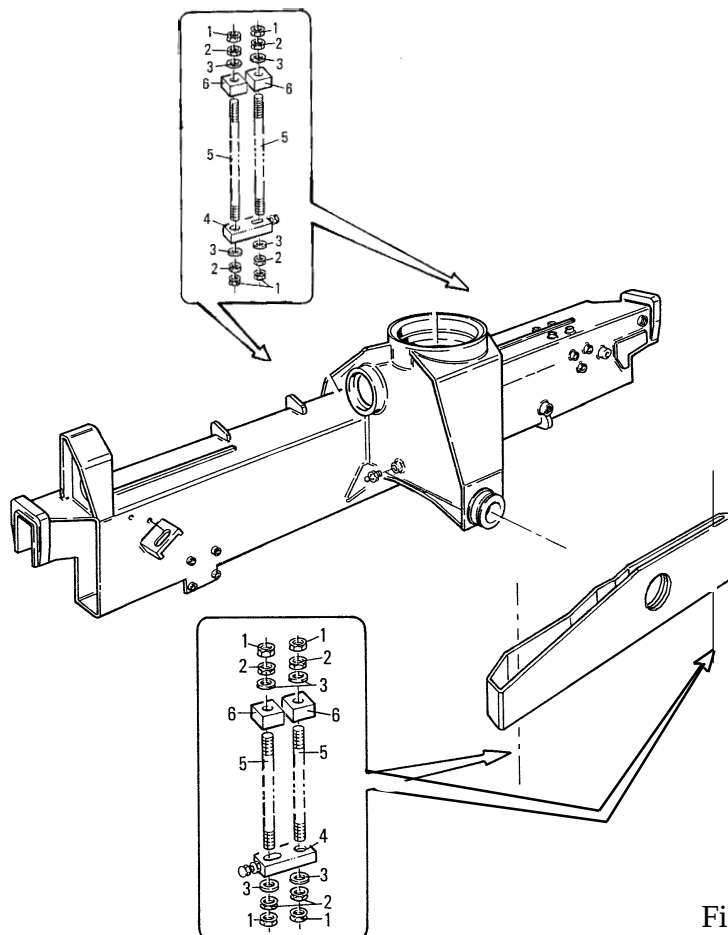

Fig.1-6
1.7 ANCORAGGIO (fig.1-6)
1.7 ANCHORAGE (fig. 1-6)